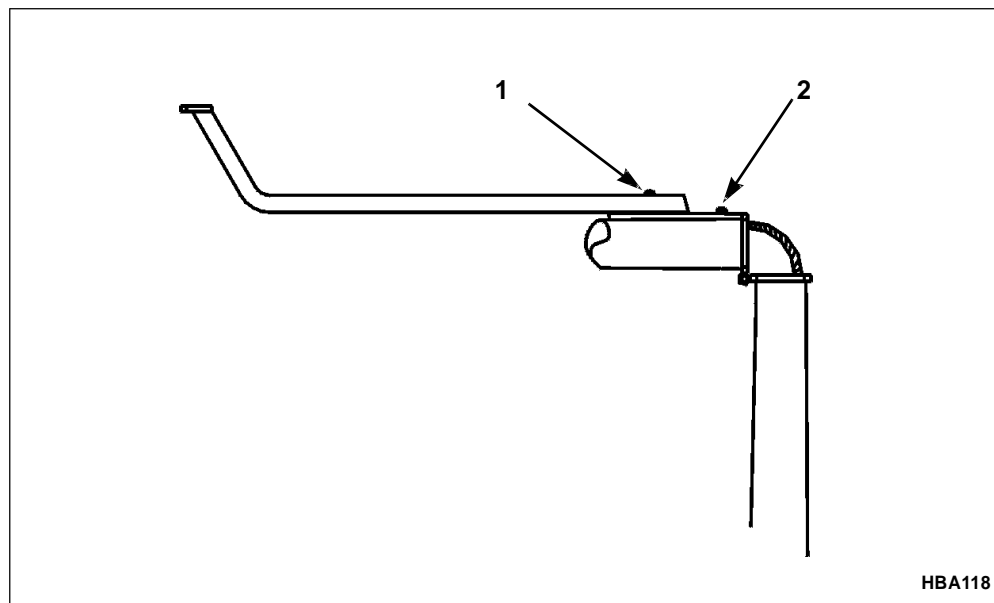

Figure 8. Positioning the Swing Arm
1. Using a 9/16" wrench, remove the bottom swing arm bolt and loosen the top swing arm bolt, see Figure 8.